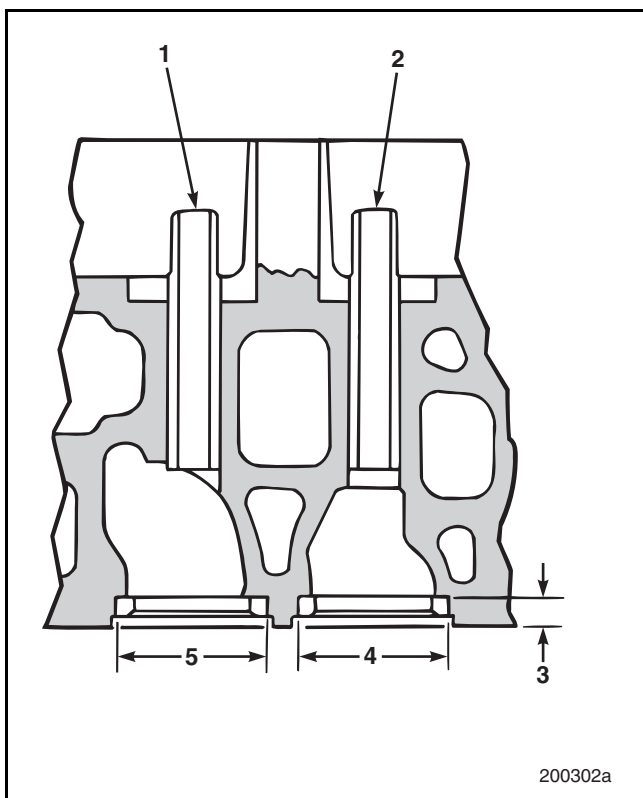

Figure 5-45 — Valve Seat Insert Counterbore Dimensions
Refer to Figure 5-45.
1. With valve seat insert removed from cylinder head (2), clean surfaces thoroughly with wire brush.
2. Check surface finish for smoothness. Check counterbore diameter with an inside diameter micrometer (1). Refer back to specifications listed in Figure 5-45.